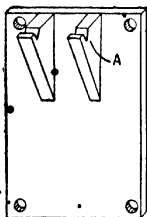
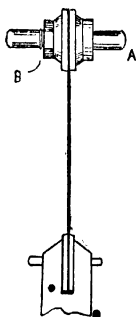

FIG. 115.—Bracket for Suspending a Heavy Pendulum.
FIG. 116.—Regulator Pendulum Suspension Spring.
To ensure solidity the pendulum is generally hung upon a strong cast bracket screwed to the case back, of the pattern shown in Fig. 115. The suspension is made after the fashion of Fig. 116. A steel spindle A passes through the top of the suspension spring and is screwed up tight by the nut B. The
spindle A rests in the V slots on the bracket (Fig. 115). This should be about 6 in.  $\times$  4 in. and  $\frac{1}{4}$  in. thick.
**Improving the Timekeeping of a Grandfather Clock.**—A Grandfather clock can be made into a sort of semi-regulator and greatly improved as a timekeeper by converting the escapement to a "dead-beat" and fitting a new pendulum with wood rod and lead bob. The backs of the cases are generally the weakest, and when this alteration is decided upon, it will be wise to strengthen the back with an additional  $\frac{3}{4}$  in. of sound deal board secured by a dozen or more screws to the old back. The clock may then be securely fixed to a wall and the pendulum may be hung from a bracket on the case back after the style of Fig. 115. The wood rod may be pine  $\frac{1}{2}$  in. diameter and of round section. Brass tube forms a good end for top and bottom. A cap 1 in. long may be fitted tight and flush, and pinned through at each end. The top cap has the suspension spring attached and the bottom cap the rating screw. The bob may be oval or cylindrical, about 7 in. high and 2 in. diameter. The crutch should be widened to span the wood rod, by having a new fork brazed on to its end. Where it